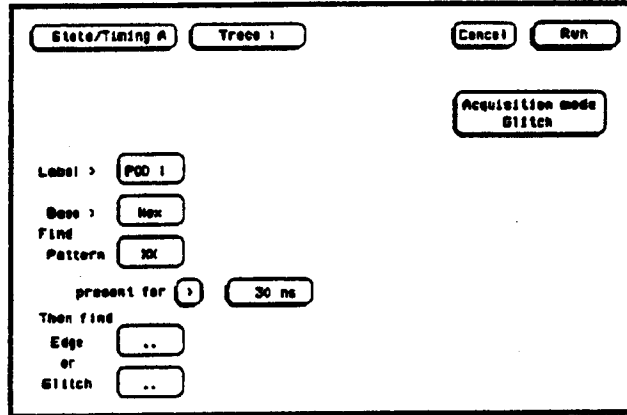

Figure 3-41. Trace Screen
4. Configure Trace screen as shown in figure 3-41. Follow steps a through c if unfamiliar with menus.